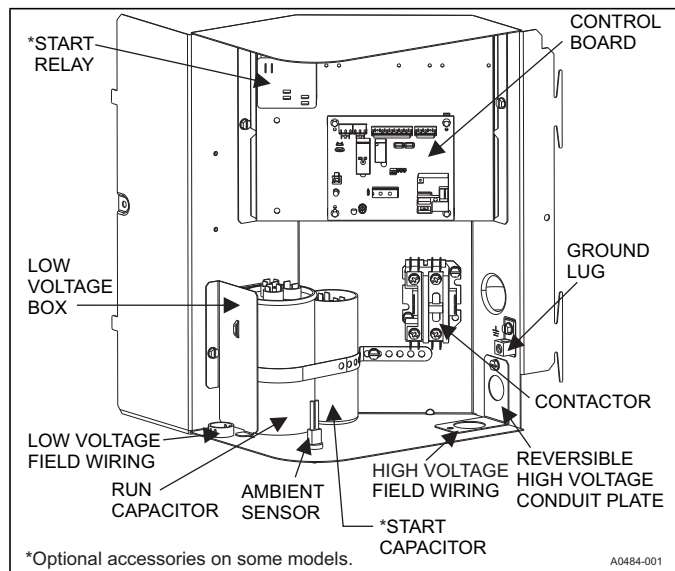
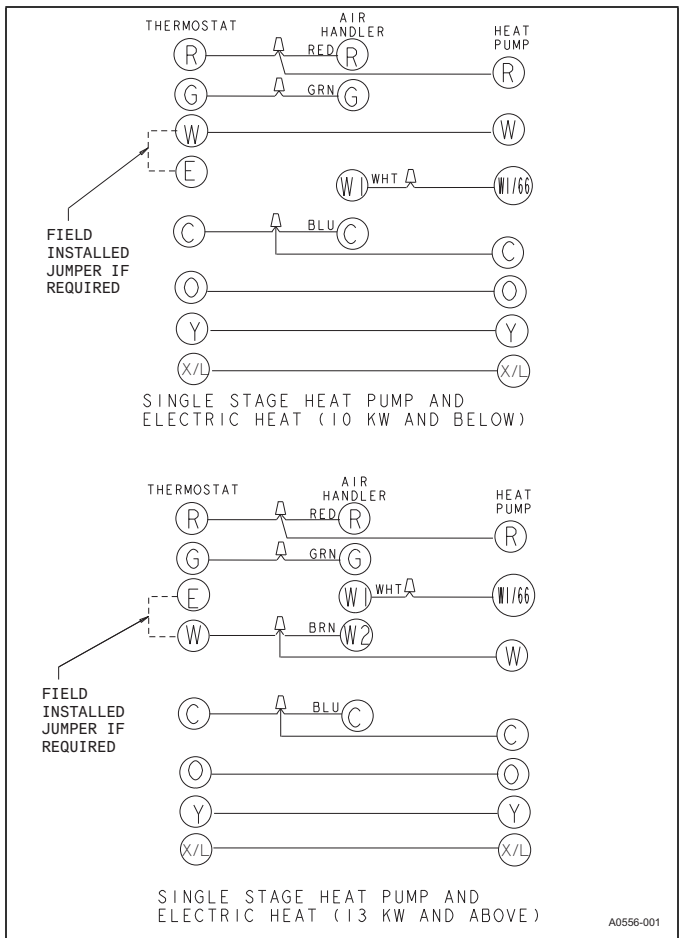

FIGURE 10: Outdoor Unit Control Box (208/230V Single Phase)
FIGURE 12: Typical Field Wiring (Air Handler / Electrical Heat) (Single and Three-Phase)
4. Route wires from disconnect through power wiring exit provided and into the unit control box as shown in Figures 10 & 11.
1. Route low voltage wiring into bottom of control box as shown in Figure 10 or 11. Make low voltage wiring connections inside the low voltage box per Figure 12.